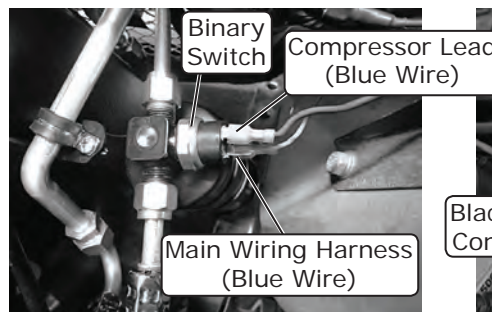

**Figure 4**
11. Cut an 8" piece of 5/8" heater hose and attach it to the heater control valve. Secure it with a hose clamp. Install the other end of the 8" heater hose onto the lower heater hardline at the firewall. Secure it with a hose clamp. Route one more piece of heater hose from the intake manifold (pressure side) to the heater control valve, and secure both ends with hose clamps (See Photos 89 & 91, and Figure 4, below). Plug the connector on the heater control valve into the corresponding connector coming from the firewall. **NOTE: Ensure proper flow direction through the heater control valve (the flow direction follows the molded arrow on the valve).**